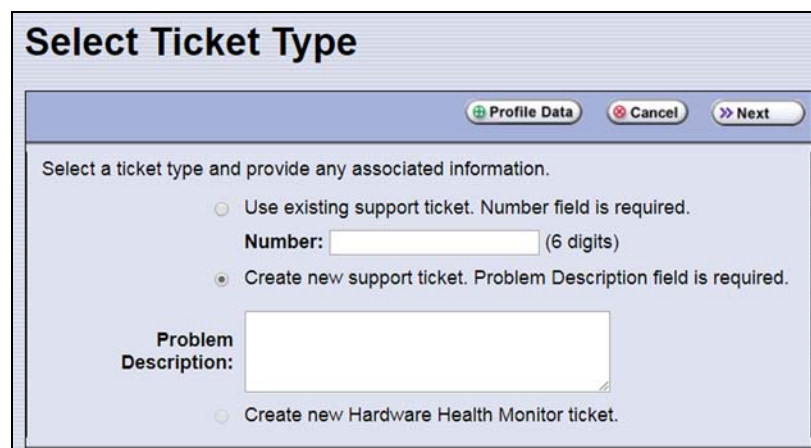

Figure 172 The Select Ticket Type screen.
7. In the Select Ticket Type screen (Figure 172 on page 309), type a detailed description of the issue in the **Problem Description** field, including what happened just before the failure occurred.
2. Follow the instructions in Step 1 on page 308 through Step 5 in Create New Support Tickets to reach the Select Ticket Type screen (see Figure 172 on page 309).